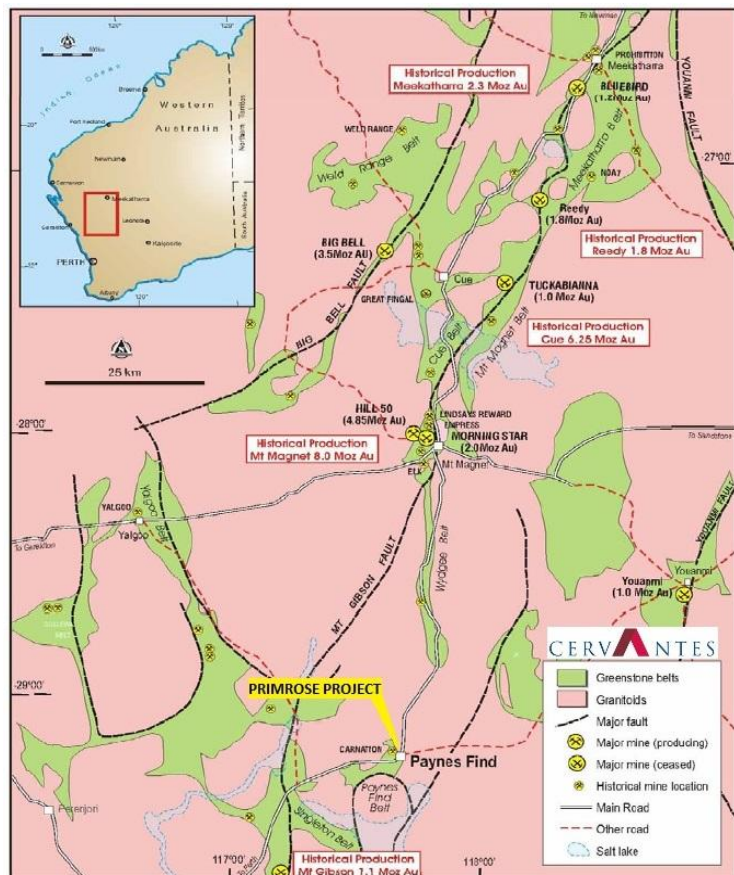

Figure 1: Primrose Project location on regional geology.
Final assays from the regional air core (AC) sampling programme on the Primrose Project (Figure 1), and announced on 21 May 2018, have been received. A total of 100 holes for 489 metres were completed (Appendix 1, AC collar data). The sampling programme aimed to: